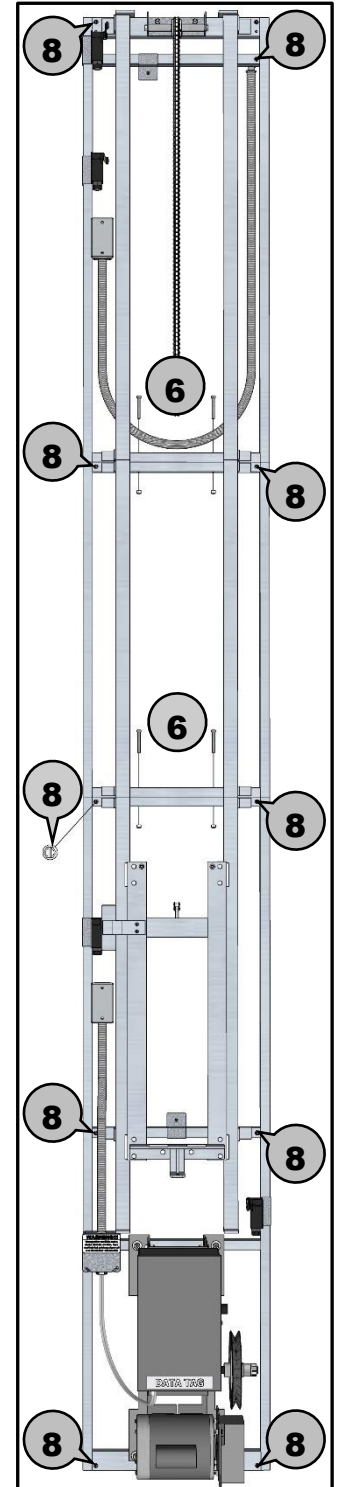

Figure 3
- 6** Use two (2) ¼" x 2 ¼" bolts & nuts to fasten sections together. (**see Figure 3**)
- 8** Use provided 3" lag screws to fasten track & rail assembly to wall. (**see Figure 3**)